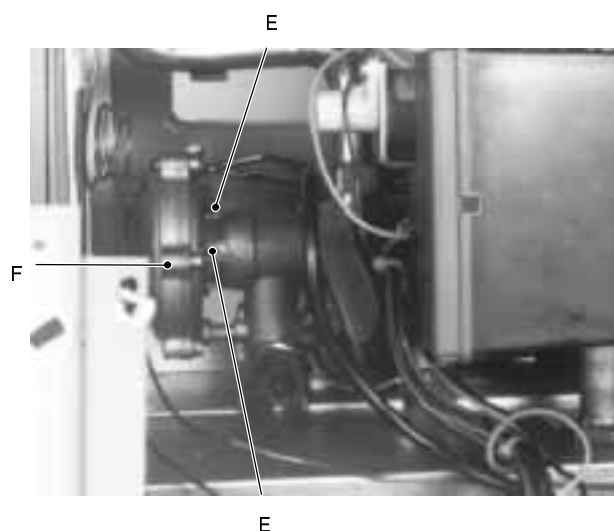

fig. 27
- 3 Loose the screws *E* and remove the hydraulic actuator *F* (fig. 27).